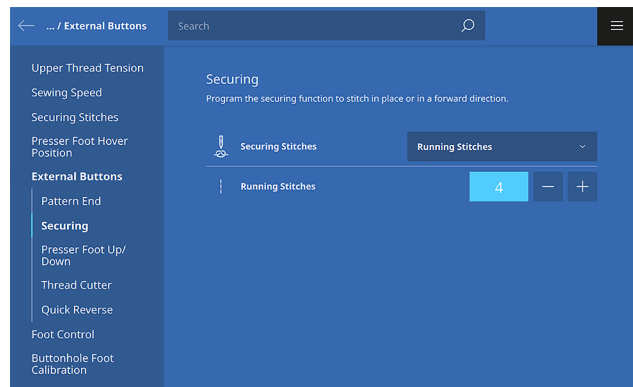

Fig. 14
- Programmable securing:** Some securing options could create more bulk than desired, particularly when many seams are intersecting. Program your securing stitch (with either the Securing button (Fig. 14) or Back-kick on the Foot Control) to sew with running stitches for securing with the least amount of bulk.